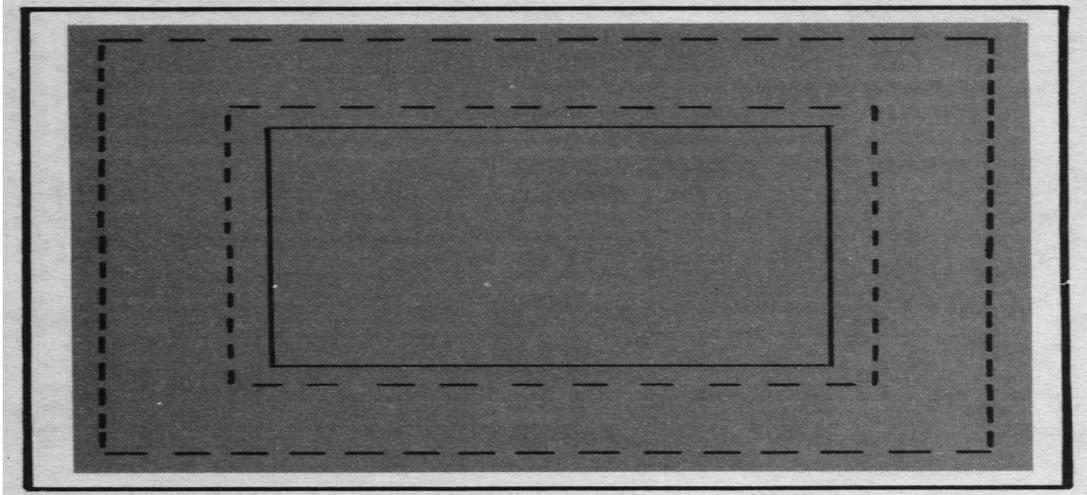

Figure 9-5. Felled canvas inverted patch
(2) Felled Canvas Inverted Patch. A felled canvas inverted patch (Figure 9-5) is sewn to the inside or the underside of canvas. To make this patch, follow the directions given in the pervious paragraph, but center the patch faceup on the damaged area on the underside of the canvas, and secure it in place. Clip the corners on the topside of the canvas, fold the tabs under, and stitch them in place.